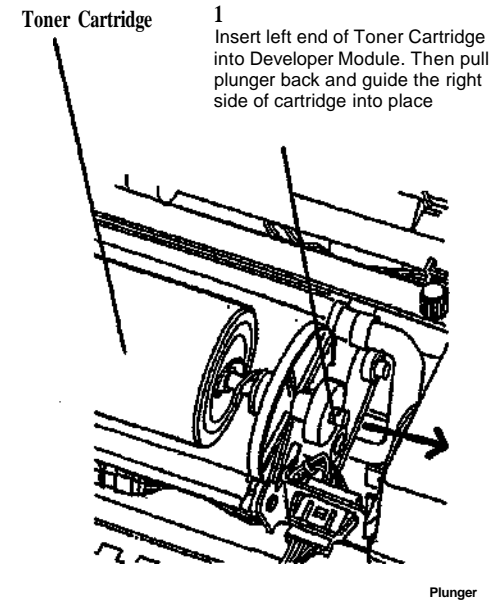

Figure 15. Reinstalling the Toner Cartridge
22. (Figure 15): Reinstall the Toner Cartridge.